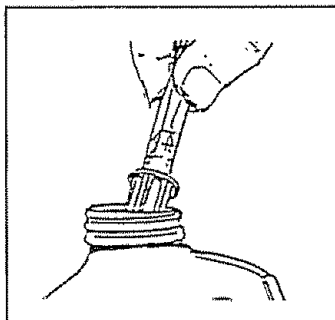

FIG. 14
- Place small filter of the clear, detergent siphoning tube into the detergent container (Fig. 14).